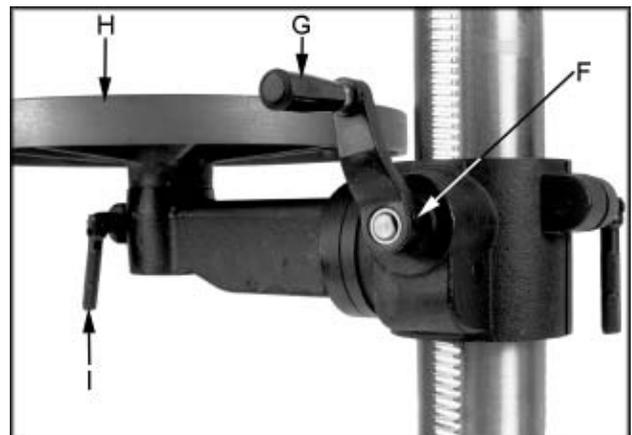

Fig. 3
4. Loosen the set screw (F, Fig. 3) on the raising handle (G, Fig. 3) with a 3mm hex wrench.
7. Insert the table (H, Fig. 3) into the table bracket.
8. Tighten the table lock handle (I, Fig. 3).